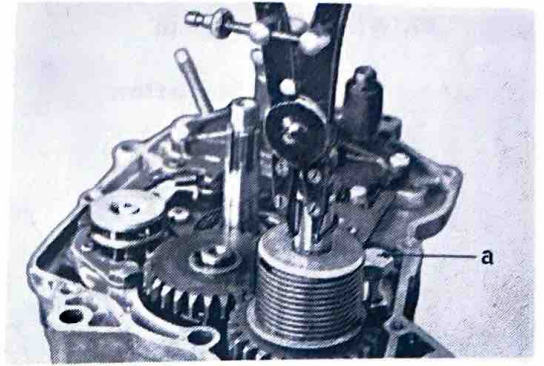

Fig. 3-11-5
- a. Remove the circlip and spring cover. (Fig. 3-11-5)